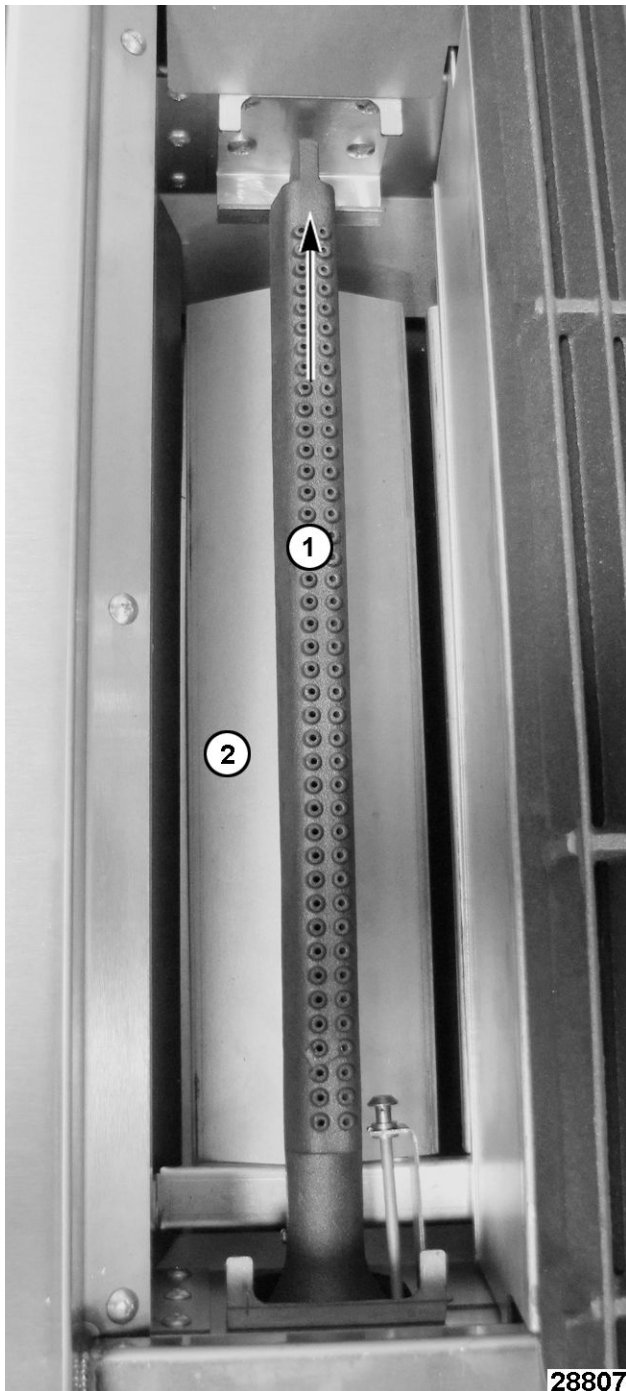

Fig. 83
3. Remove burner (1, Fig. 83) and deflector (2, Fig. 83) by lifting at the rear of burner.